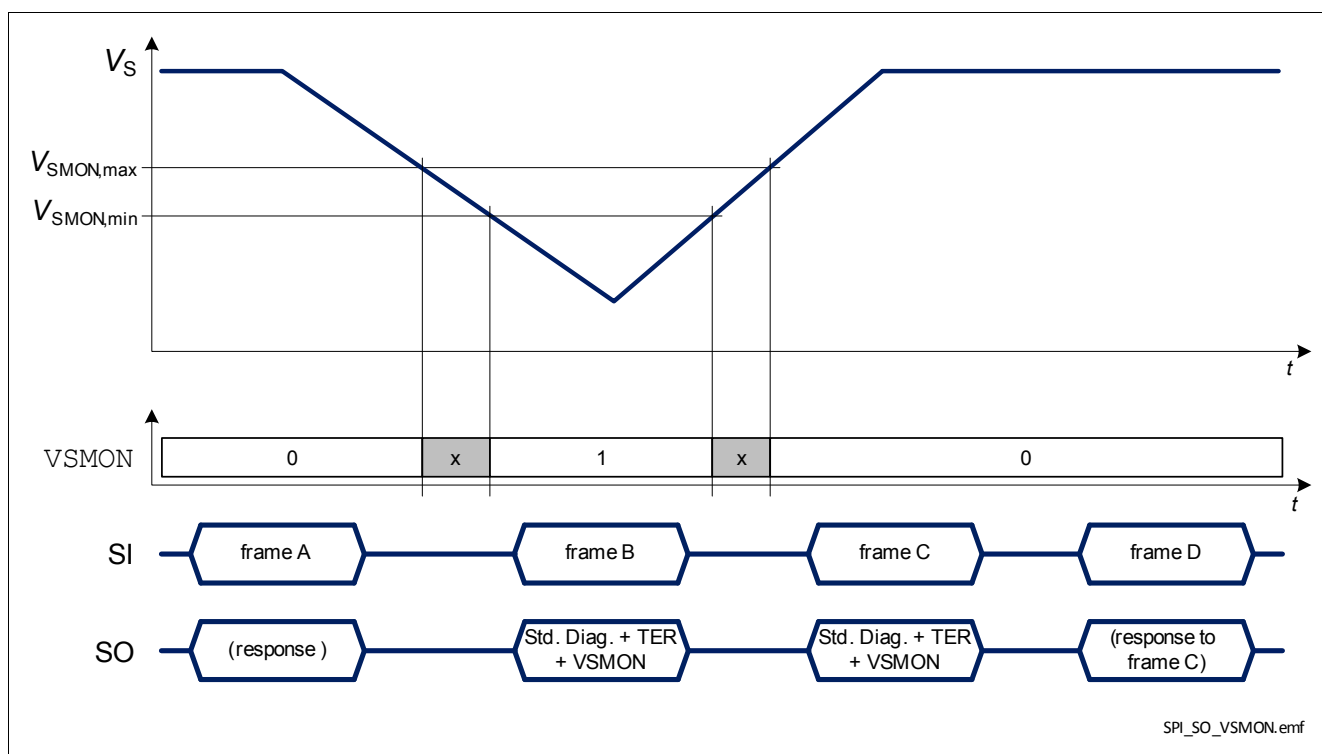

Figure 34 BTS54040-LBE response in case of a negative battery voltage transient
- when $V_S < V_{\text{SMON}}$ and $\text{DCR.MUX} \neq 111_{\text{B}}$, as shown in Figure 34